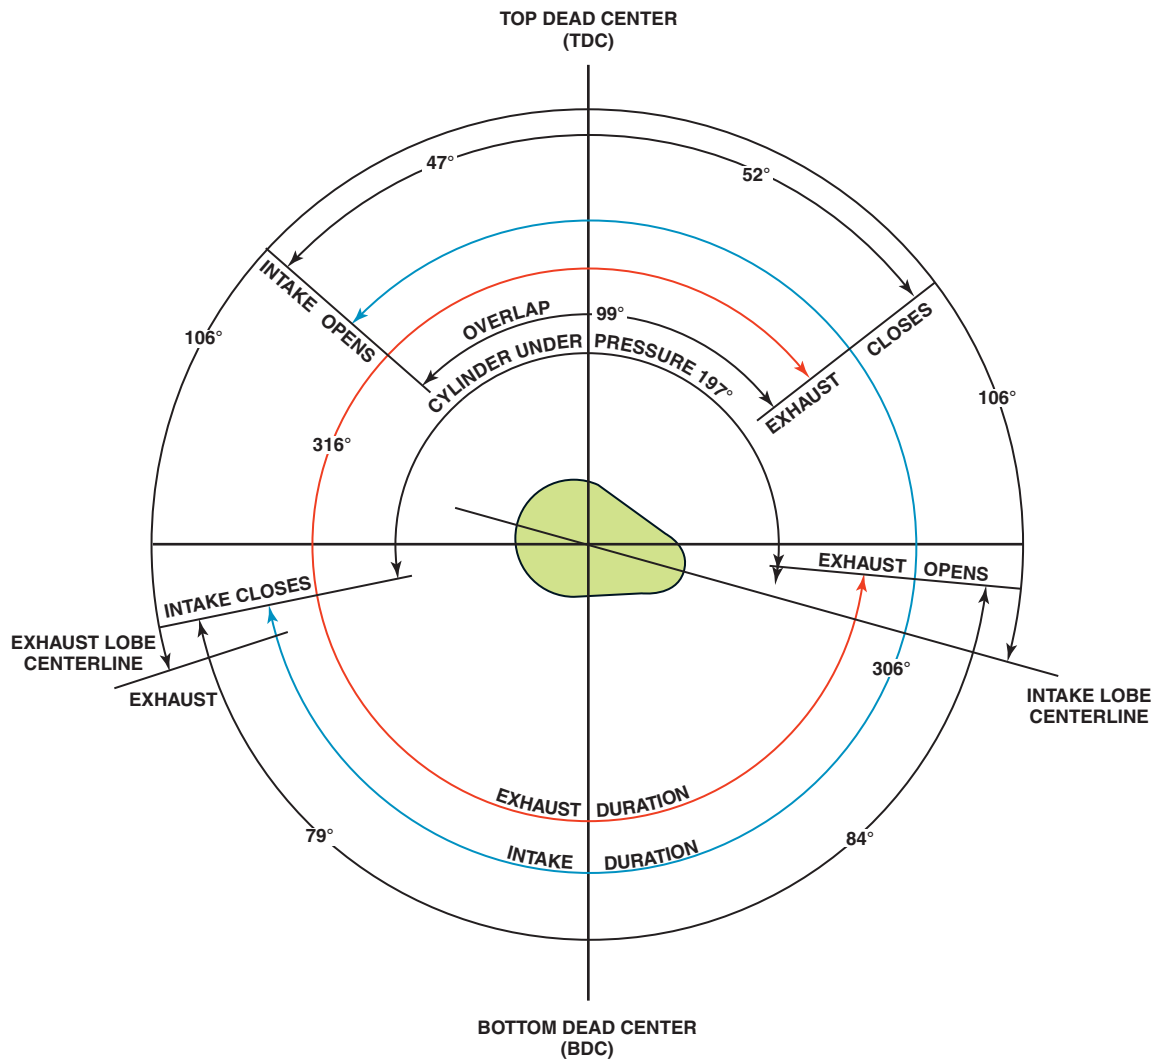

FIGURE 33-14 Typical valve timing diagram showing the intake lobe centerline at 106 degrees ATDC.
STEP 3 Now that both TDC and intake centerline have been marked, compare the actual intake centerline with the specification. For example, if the actual intake centerline is 106 degrees and the camshaft specification indicates 106 degrees, then the camshaft is installed *straight up*. ● **SEE FIGURE 33-14.** If the actual reading is 104 degrees, the camshaft is advanced by 2 degrees. If the actual reading is 108 degrees, the camshaft is retarded by 2 degrees.